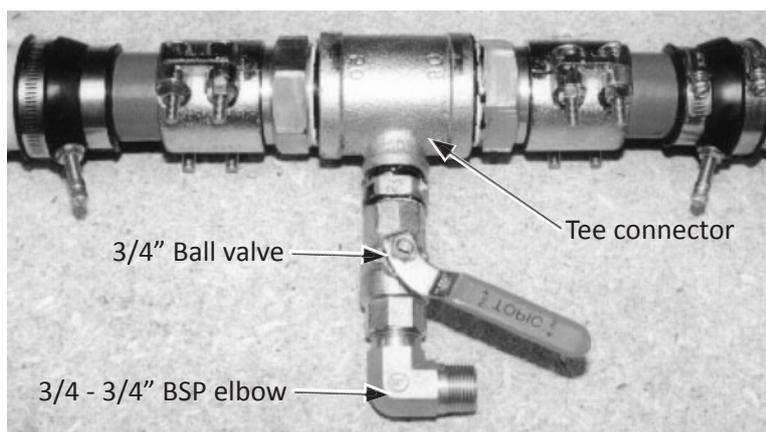

Figure 5. Typical Feed Line Assembly
- Connect the product feed line hoses assemblies (x3) to the feed line assembly shown in Figure 5.